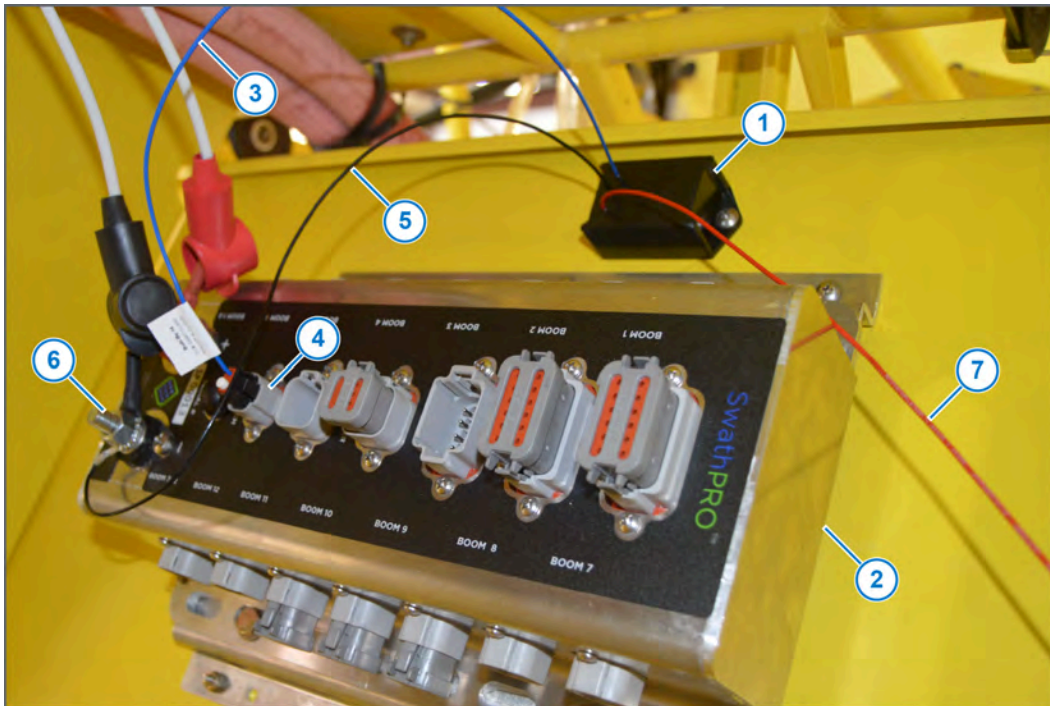

Figure 28: CapstanAG™ Power Supply
2. Mount the power supply (Figure 28, Item 1) near the Gateway Hub (Figure 28, Item 2).
See Figure 28
3. Connect the 2-pin DT connector (Figure 28, Item 3), on the blue wire, to the **Key Switch** port (Figure 28, Item 4) on the Gateway hub.
4. Install the black wire (Figure 28, Item 5) with the ring terminal onto the ground lug (Figure 28, Item 6) on the Gateway hub.
5. Route the red wire (Figure 28, Item 7) to the 7A circuit breaker in the cockpit.